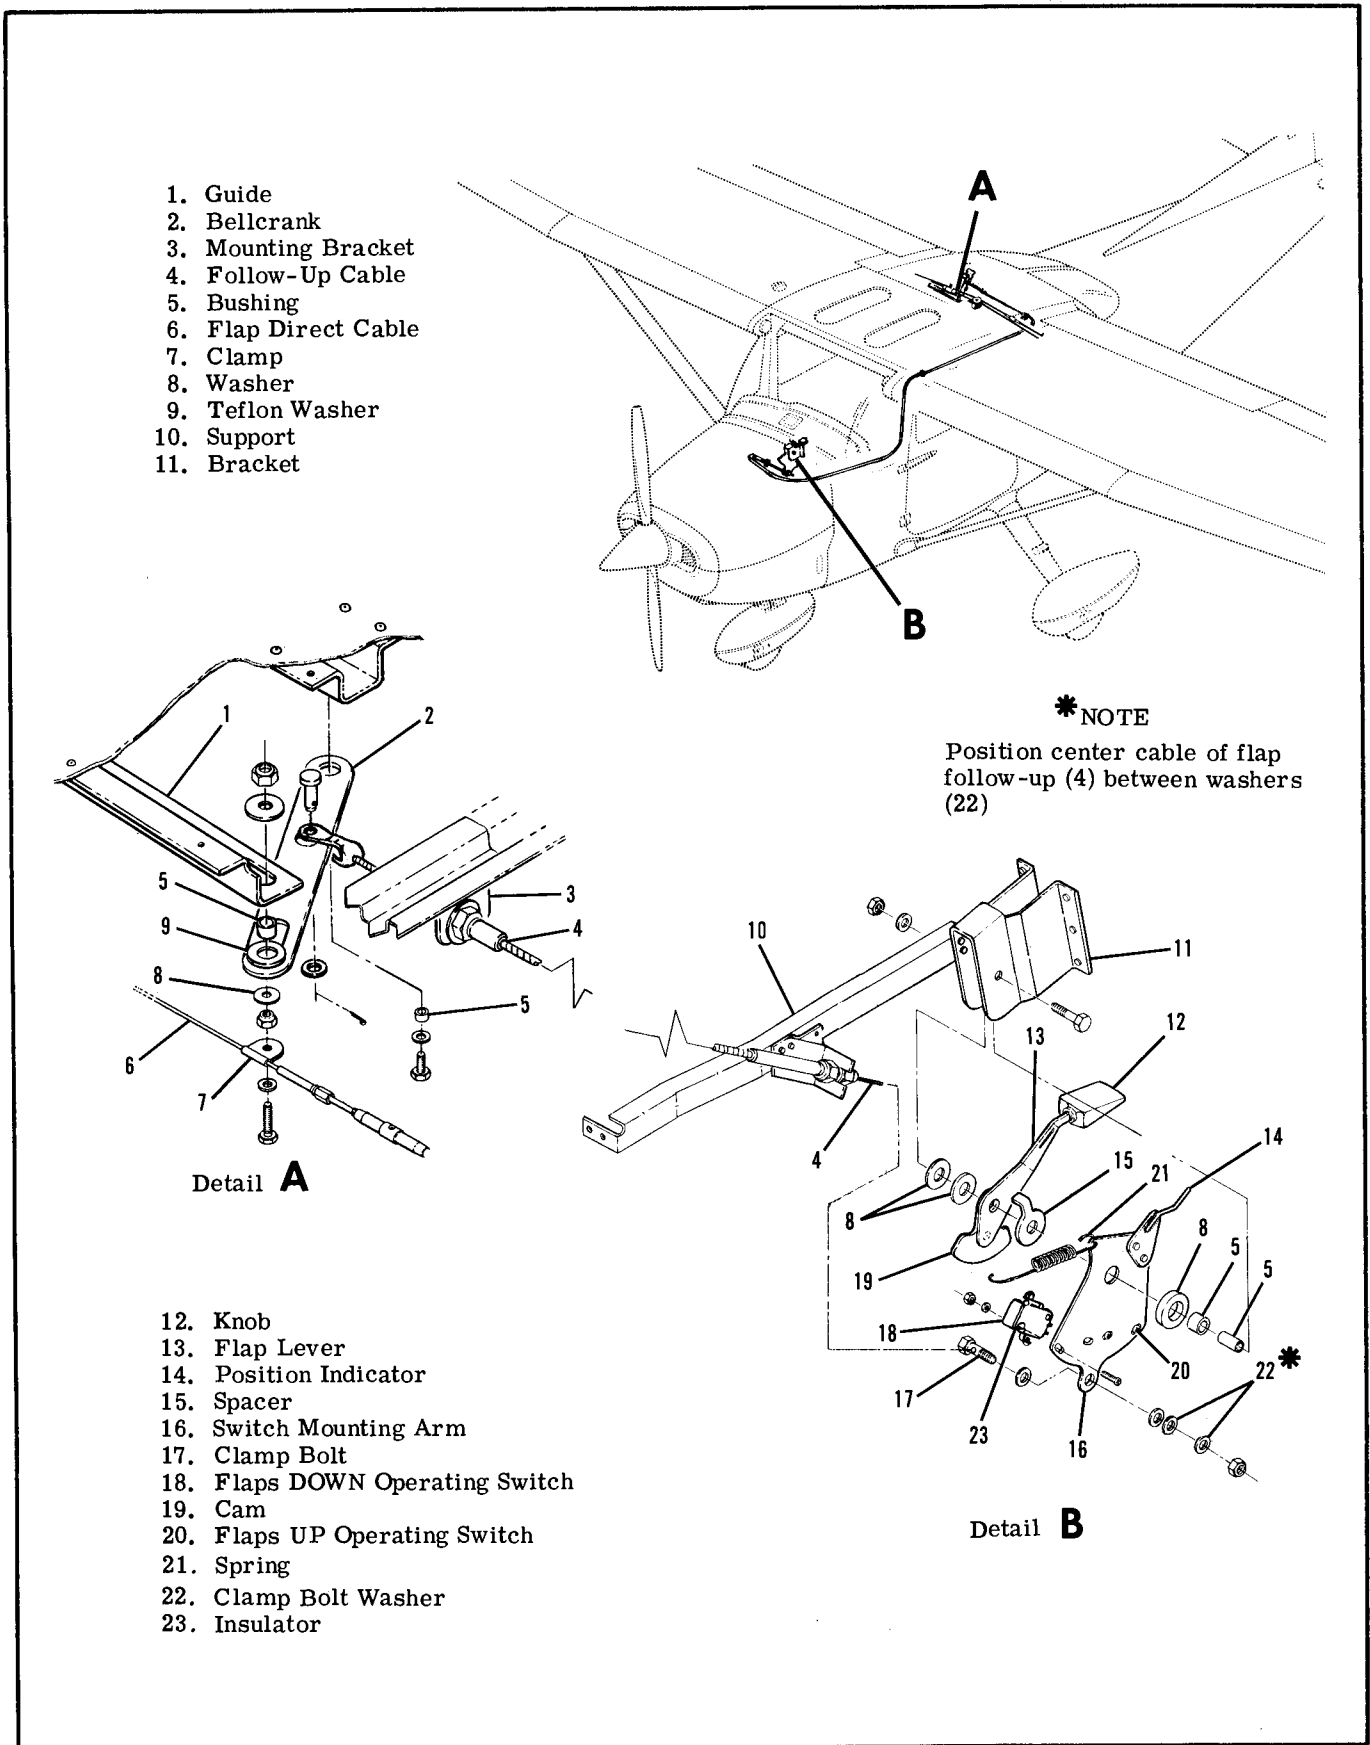

Figure 7-5. Flap Follow-Up Control and Position Indicator
- b. If direct cable (4) is to be removed, disconnect clamp (index 7, figure 7-5) from bellcrank (index 2, figure 7-5).
- c. Remove safety wire, relieve cable tension, disconnect turnbuckles (6) and carefully lower LEFT flap.
- b. With flaps in the full UP position, disconnect follow-up cable (index 4, figure 7-5) by removing clevis attaching follow-up cable to bellcrank (index 2, figure 7-5).
(Refer to figure 7-5.)
7-19. REMOVAL AND INSTALLATION. Figure 7-5 can be used as a guide to removal and installation of the flap follow-up and indicating system.
7-20. RIGGING. (Refer to figure 7-5.)
b. Disconnect spring (21) from switch mounting arm (16).
c. With flaps and flap lever (13) in full UP position and holding flap position indicator (14) to a clearance of $.03$ inch maximum with top of instrument panel opening, pull center cable of flap follow-up (index 4, detail b) to remove slack. Connect cable thru clamp bolt (17) observing note of figure 7-5.
d. Connect spring (21) to switch mounting arm (16).
e. Adjust switches (18) and (20) in slotted holes in mounting arm (16) until cam (19) is centered between switch rollers.
f. Mount an inclinometer on one flap and set to 0° (flaps full UP). Turn master switch ON and move flap lever (13) to 10° position.